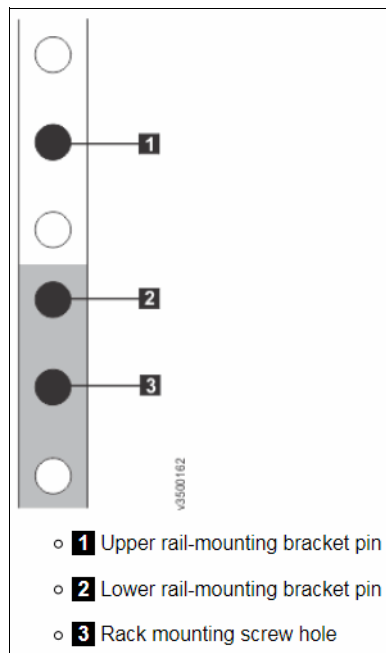

Figure 6-1 Rack hole locations in the front of the rack
2. Working at the front of the rack cabinet, identify the two standard rack units (2U) of space in the rack into which you want to install the support rails. See Figure 6-1.